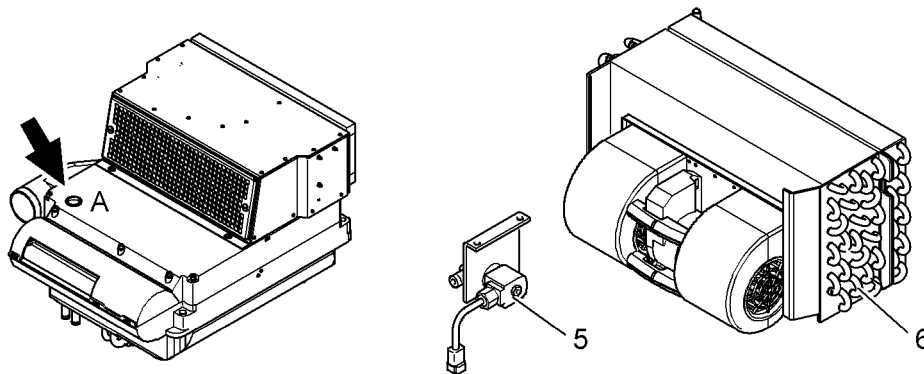

Fig. 5-59 Heating unit with solenoid valve
- Do not operate the machine, even briefly, without these filters, since the heat exchanger **6** will otherwise quickly become blocked (siehe Fig. 5-59).